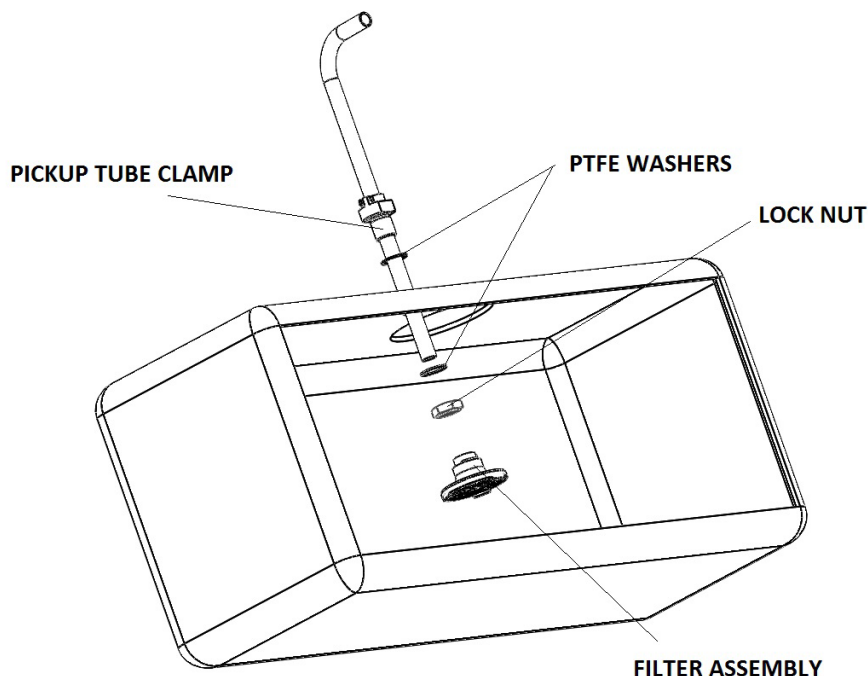

FIGURE 1-7
9. Insert the pickup tube assembly as illustrated in **FIGURE 1-7**. Place one PTFE washer, lock nut and filter assembly into tank using the factory fuel module (**do not tighten anything yet**). Lightly oil the pickup tube and insert it thru the pickup tube clamp. There will be some resistance because of the two sealing o-rings. Lube the end of the tube and push it into the filter assembly and tighten the filter clamp (tube can be tilted toward the factory open to aid in assembly). Now tighten the pickup tube clamp lock nut.